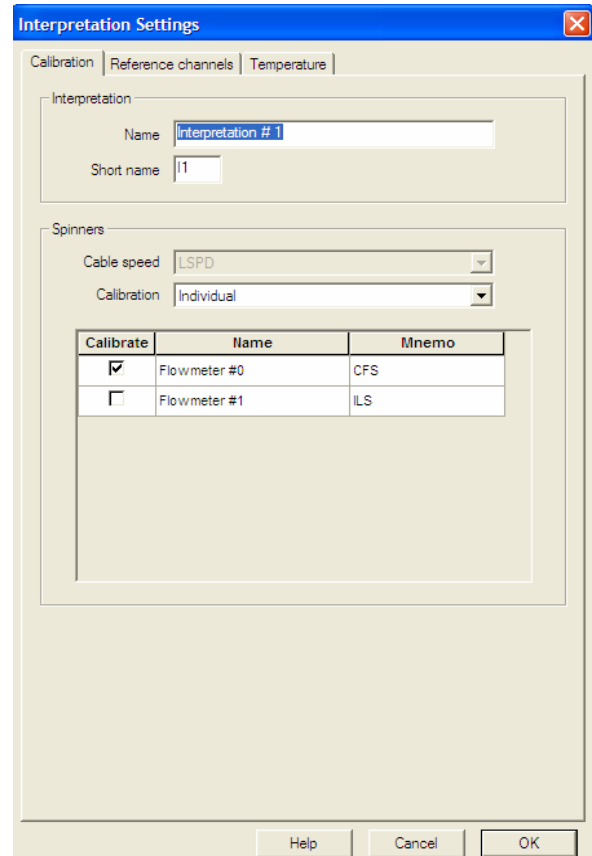

Figure 4.2(a): Interpretation setting
- The interpretation setting dialog will appear as shown in figure 4.2(a) below.
- The reference channels can be defined in the second tab of the Interpretation settings dialog, Fig. 4.2(b).
- Select the pass “Down 1” and validate with “OK”, Fig. 4.2(c). The check box on the Temperature line is now checked and the mnemonic displayed. Clicking on the trash icon allows to undefine the channel.